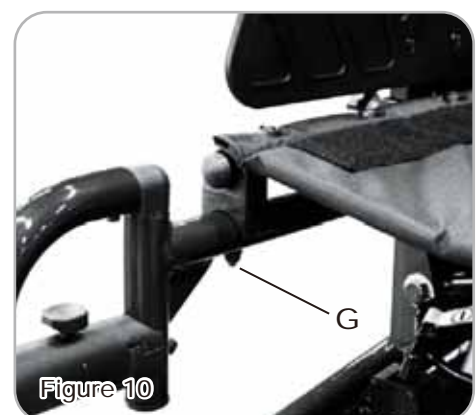

Figure 10
Unscrew bolt, (G), release the frame under the seat and fold up.(See Fig. 10)